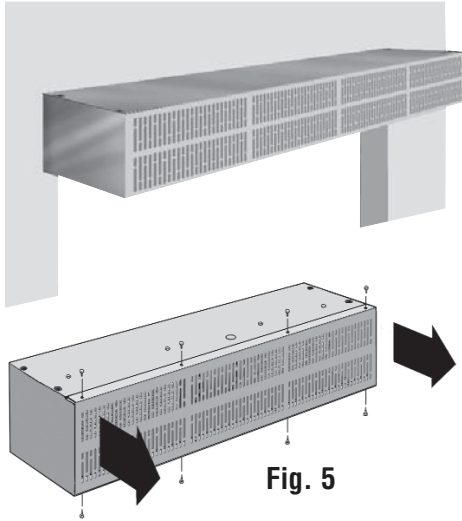

Fig. 5
1. Remove the screws that hold the intake grill in place. Remove the grill and applicable filter(s). (See Fig. 5)
This mounting method would be used when the Air Curtain cannot be attached directly to the wall. If the unit is slightly away from the wall, there must be a seal between the unit and the wall. See Fig. 5, page 4.